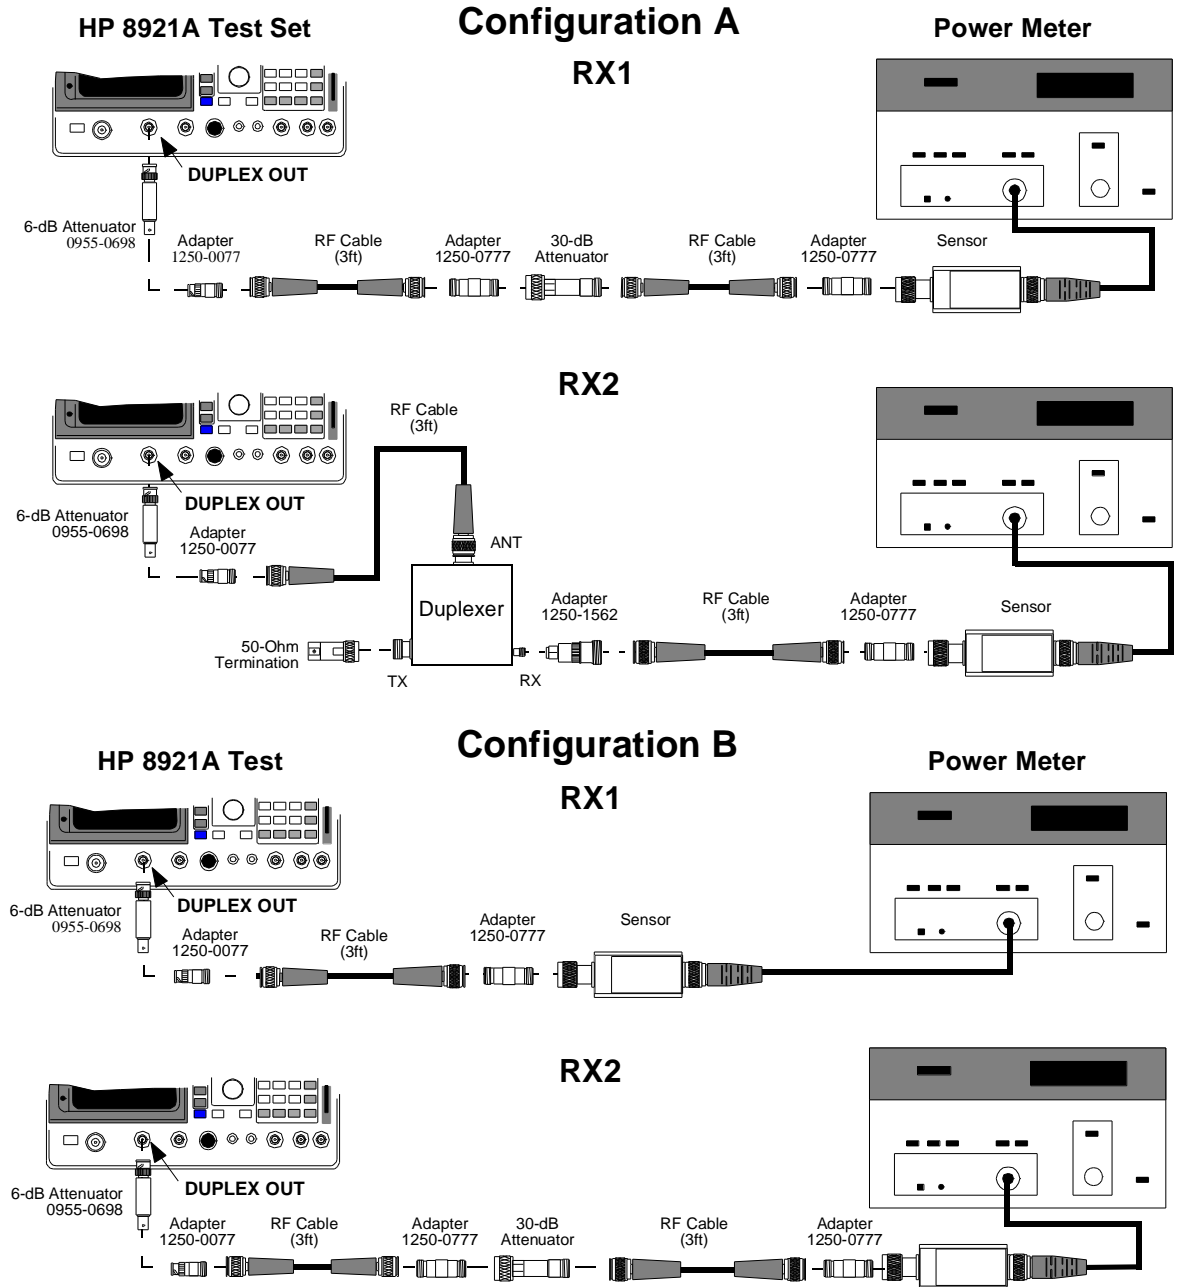
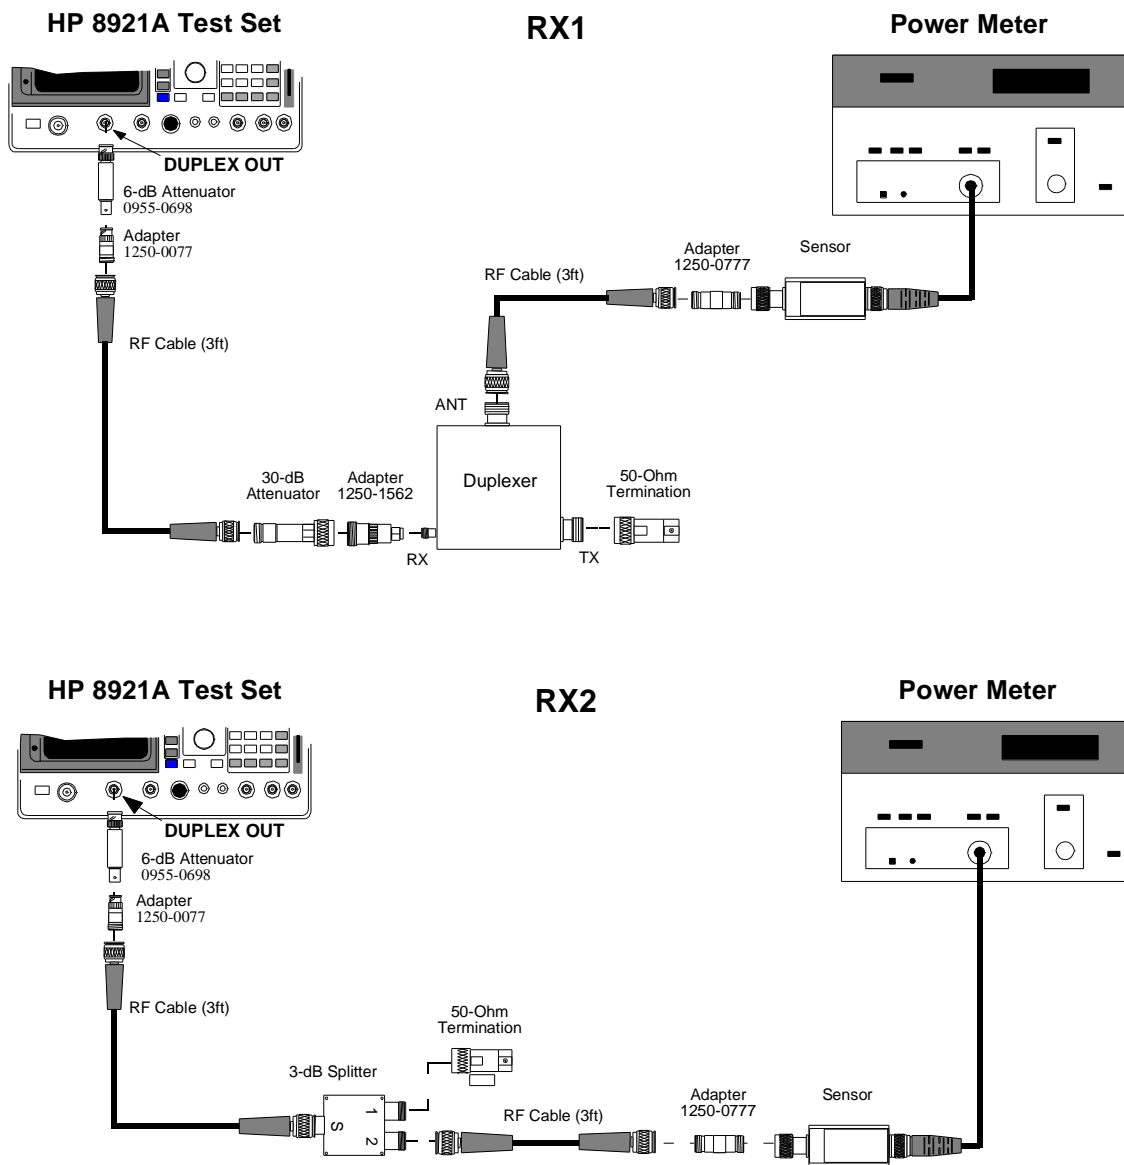

Figure 59
Figure 60
Any external equipment associated with your TX path such as a duplexer, splitter, or RF cable. See figure 59 on page 93 and figure 60 on page 94 for RX path diagrams.
- 7 Connect your RX path equipment to the Test Set and power meter. *Figure 59 on page 93 and figure 60 on page 94* show the connections for each base station configuration (A, B, and C).